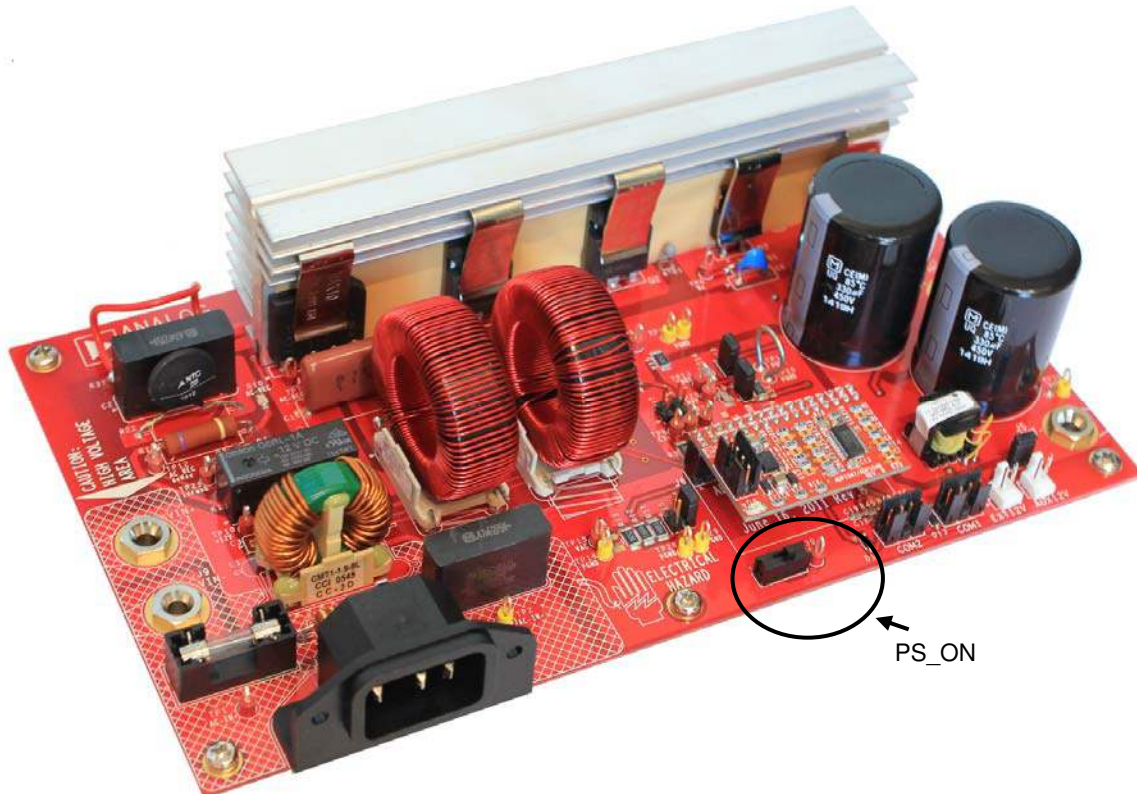

Figure 4 - 600W evaluation board showing PS\_ON hardware switch
- 2) Insert the daughter card in connector J6 as shown in Figure 4.
- 3) Ensure that the PS\_ON switch (SW1 on schematic) is turned to the on position. It is located on the bottom left half of the board (Figure 4).